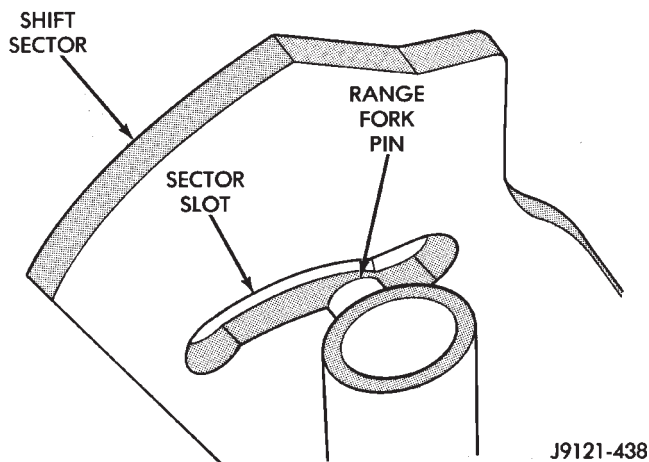

Fig. 17 Disengaging Range Fork
(26) Slide range fork pin out of shift sector (Fig. 17).